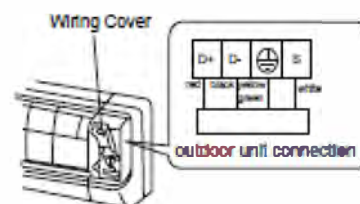

Fig.2
2. Remove the wiring cover. Connect and fix the power connection cord to the terminal board, as shown in Fig 2.